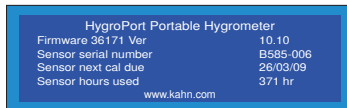

Figure 2.15 - Info screen
2.6.8 Info (Figure 2.15)
2.6.9 Chart options (Figure 2.15)